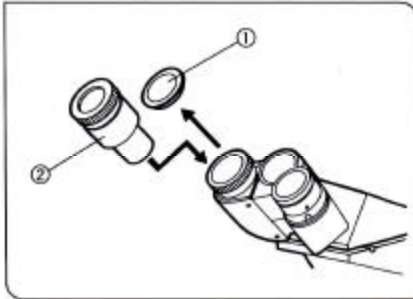

Fig. 3
(Fig. 3, 4)
1. Remove the eyepiece dust cap ①. (Fig. 3)
2. Insert the eyepiece ② into the eyepiece sleeve as far as it will go. (Fig. 3)